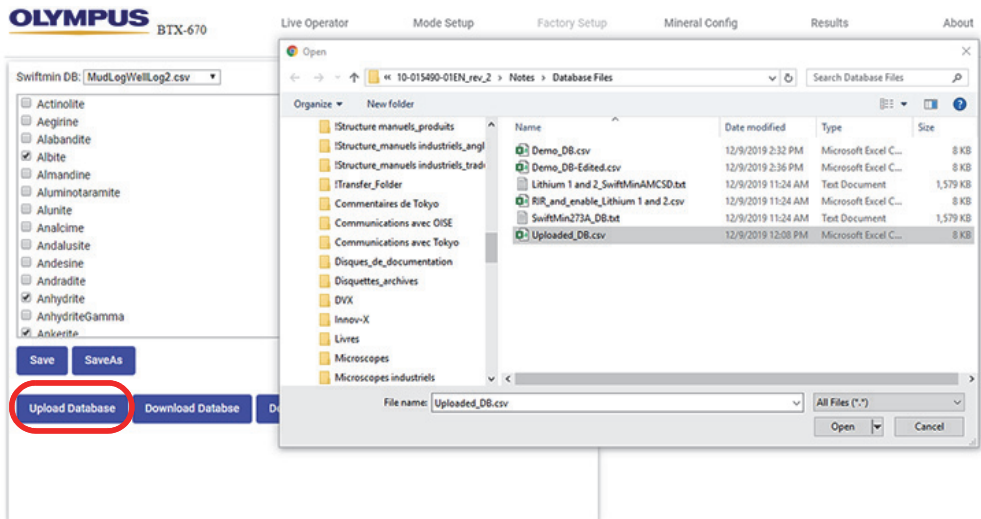

Figure 5-9 Upload database
1. Click **Upload Database** to open a file explorer window (see Figure 5-9 on page 75).